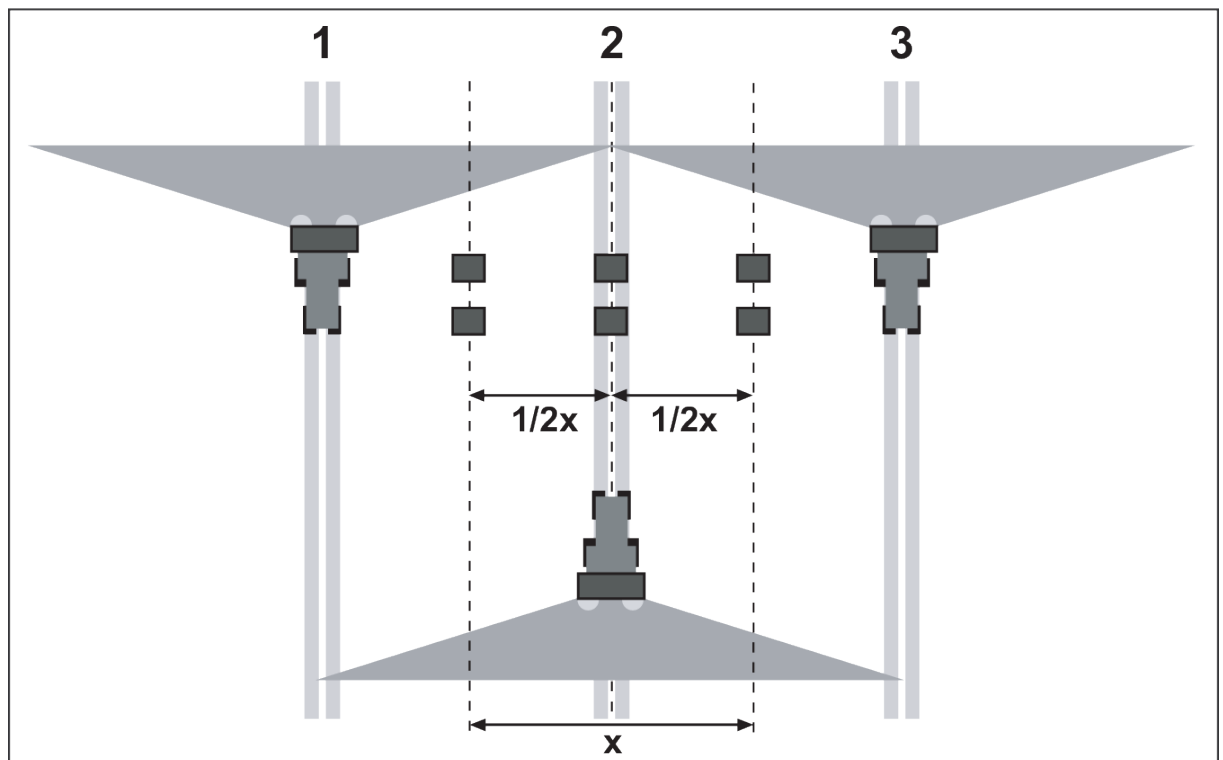

Fig. 35: Layout for three passages
- ▶ Place two collecting vessels one in front of another at a distance of **1 m** in the overlap zones (between the tracks) and in the track (according to Fig. 35)